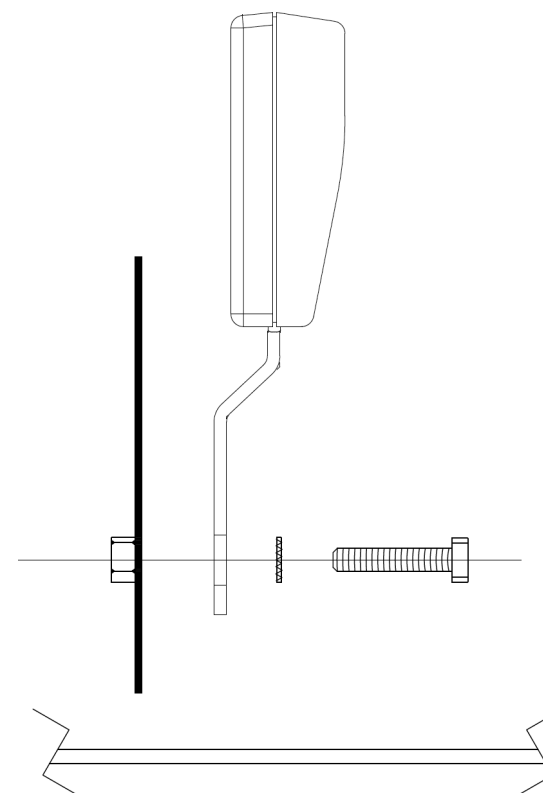

Fig. 7
1. Assemble hardware as shown in **Fig. 7** (below).